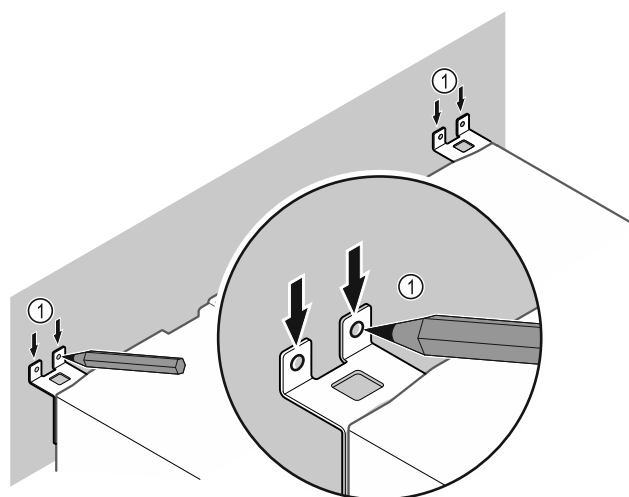

Fig. 51
- Make markings on the wall Fig. 51 (1).